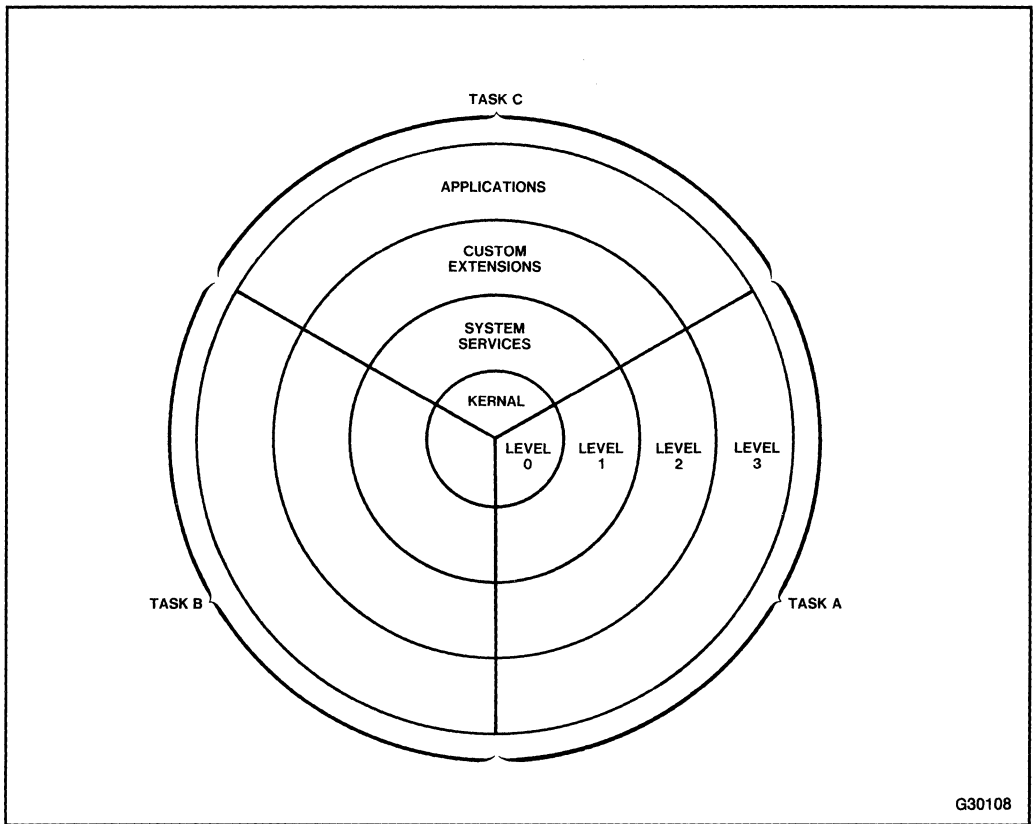

Figure 7-6. Code and Data Segments Assigned to a Privilege Level
Privilege on the 80286 is hierarchical. Operating system code and data segments placed at the most privileged level (0) cannot be accessed directly by programs at other privilege levels. Programs at privilege level 0 may access data at all other levels. Programs at privilege levels 1-3 may only access data at the same or less trusted (numerically greater) privilege levels. Figure 7-6 illustrates the privilege level protection of code or data within tasks.
In figure 7-6, programs can access data at the same or outer level, but not at inner levels. Code and data segments placed at level 1 cannot be accessed by programs executing at levels 2 or 3. Programs at privilege level 0 can access data at level 1 in the course of providing service to that level. 80286 provides mechanisms for inter-level transfer of control when needed (see section 7.5).
Two extra privilege levels allow development of more reliable, and flexible system software. This is achieved by dividing the system into small, independent units. Figure 7-6 shows an example of the usage of different protection levels. Here, the most privileged level is called the kernel. This software would provide basic, application-independent, CPU-oriented services to all tasks. Such services include memory management, task isolation, multitasking, inter-task communication, and I/O resource control. Since the kernel is only concerned with simple functions and cannot be affected by software at other privilege levels, it can be kept small, safe, and understandable.
Each task operates at only one privilege level at any given moment: namely that of the code segment being executed. (The conforming segments discussed in section 11.2 permit some flexibility in this regard.) However, as figure 7-6 indicates, the task may contain segments at one, two, three, or four levels, all of which are to be used at appropriate times. The privilege level of the task, then, changes under the carefully enforced rules for transfer of control from one code segment to another.